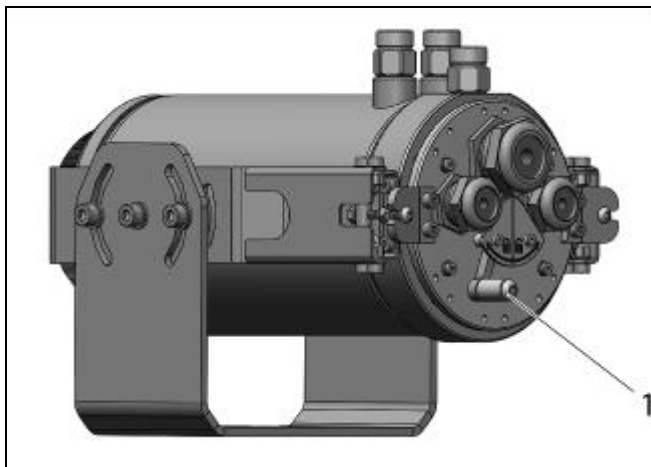

Figure 35: Back side of the CoolingJacket with locking lever
6. Move the locking lever to the left (symbol: ) , so that the chassis is fitted close to the inner surface of the housing (**Figure 35**).
4. Move the locking lever to the left (symbol: ) , so that the chassis is fitted close to the inner surface of the housing (**Figure 35**)